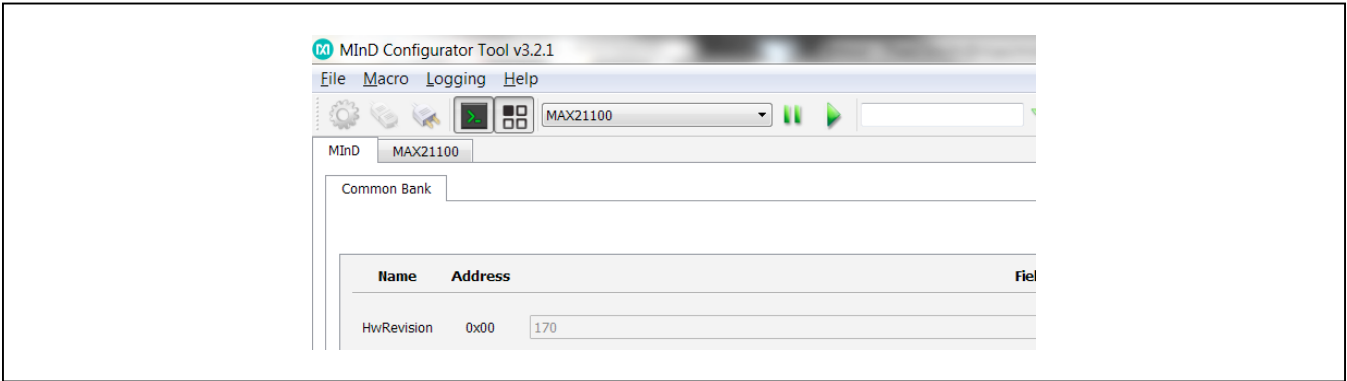

Figure 16. MAX21100 Tab Selection
- 1) Select the **MAX21100** tab (Figure 16).